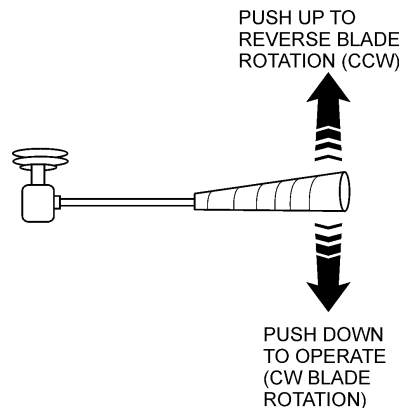
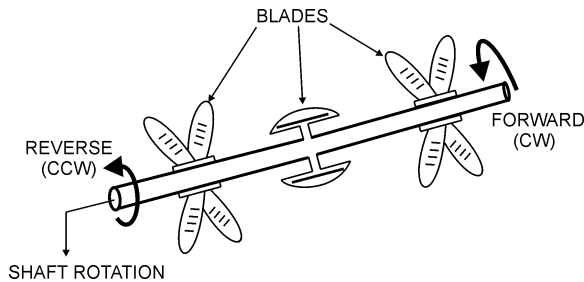

Figure 32. Hopper Remixer Control Lever
Figure 33. Hopper Remixer Blades (Rotation)
- Located to the left of the Hydraulic Temperature gauge is the Hopper Remixer Control lever (Figure 32).
- C. Push the Hopper Remixer Control lever “**DOWNWARD**” (Figure 32) and observe that the blades (Figure 33) inside the hopper are turning in a clockwise direction (forward).
- D. Push the Hopper Remixer Control lever “**UPWARD**” (Figure 32) and observe that the blades (Figure 33) inside the hopper are turning in a counter-clockwise direction (reverse).